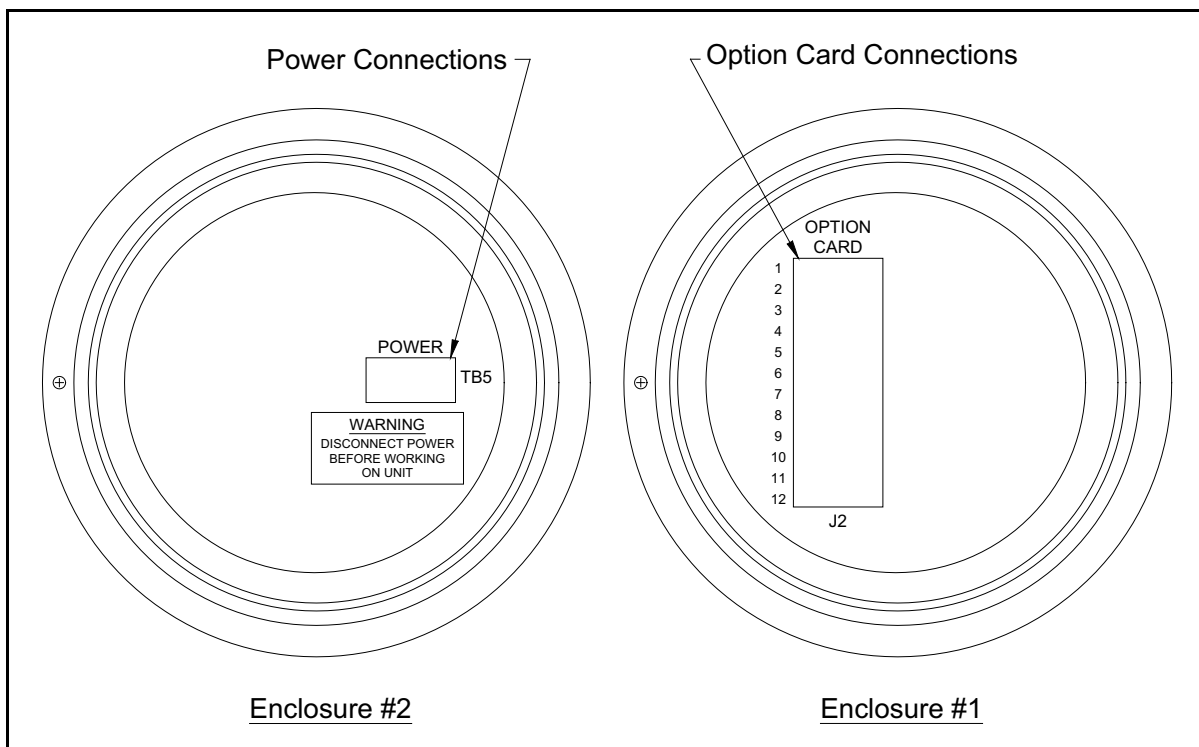

Figure 12: Connection Labels Inside Rear Covers
4. Note the label inside each rear cover (see *Figure 12* below) to assist in wiring the power (enclosure #2) and the option card connections (enclosure #1).